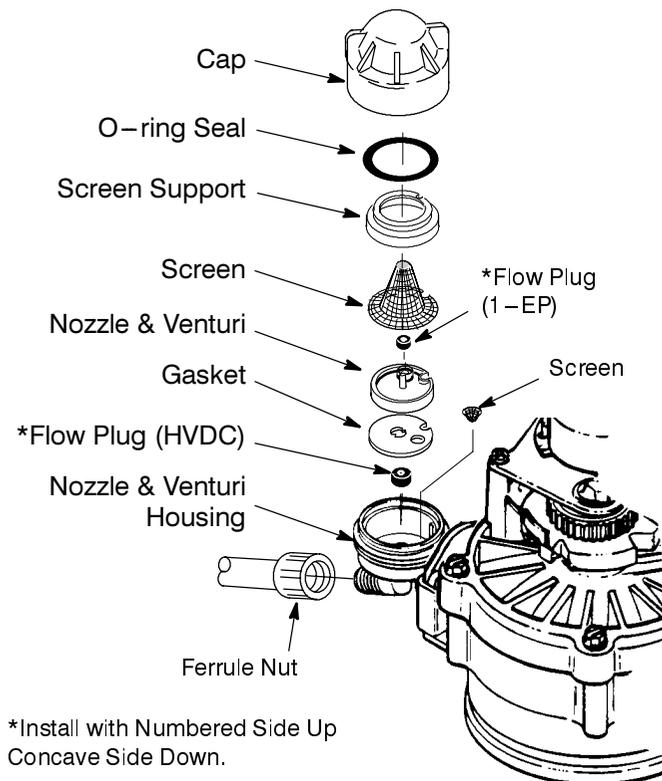

Figure 14
A clean nozzle and venturi (see Figure 14) is a must for the conditioner to work properly. This small unit creates the suction to move brine from the brine tank, into the resin tank. If it should become plugged with sand, silt, dirt, etc., the conditioner will not work, and you will get hard water.
- b. Check for fill water flow to the salt storage tank. If water does not enter the tank, look for an obstructed nozzle and venturi, fill flow plug or brine tubing Figure 14, page 24.
3. After verifying fill, press the  (Touch/Hold) button to move the valve into brining. A slow flow of water to the drain will begin. Verify brine draw from the brine tank by shining the flashlight into the brinewell and observing a noticeable drop in the liquid level after several minutes. Remove brine line from the nozzle and venturi by loosening the ferrule nut (see Figure 14). Place a finger on the nozzle and venturi opening and feel for vacuum.